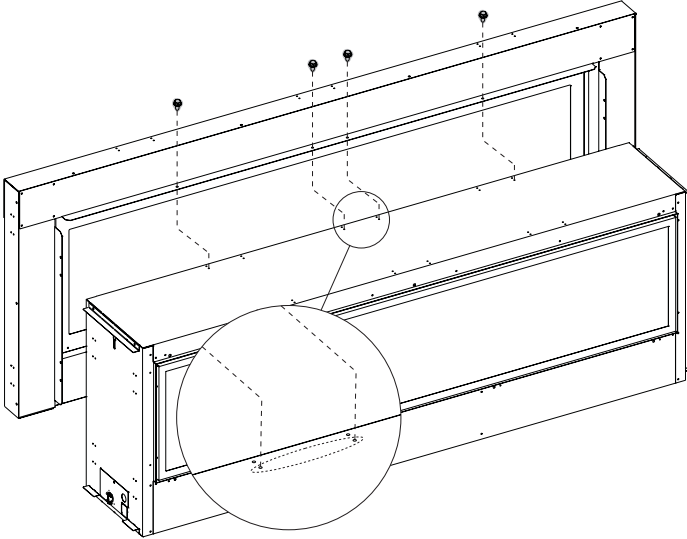

Figure 9
11. Secure the outer glass and frame to the top of the fireplace using four provided #10 x ½ inch screws. **See Figure 9.**